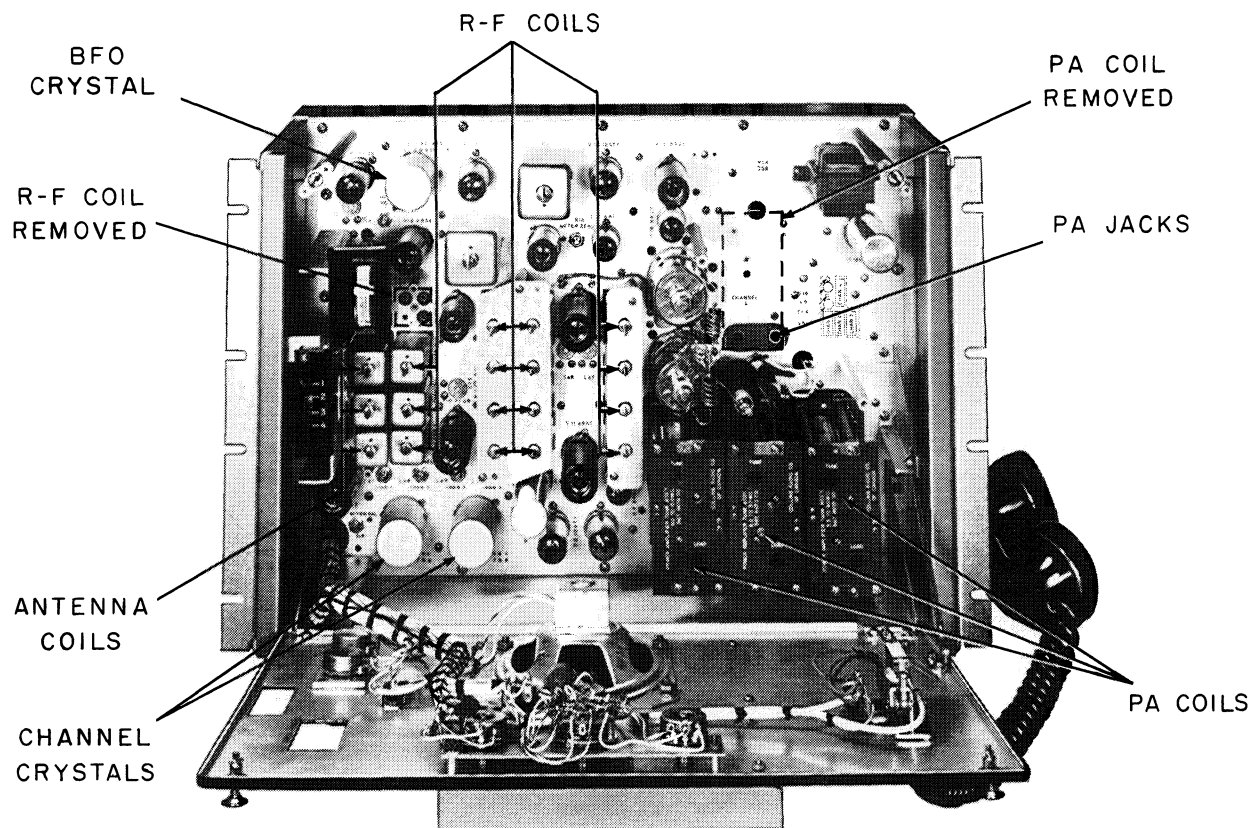

Figure 2-3. Coil Positions
b. Refer to figure 2-3. Insert the appropriate antenna, r-f, and PA coils. Check location against silk screening on chassis. Table 2-1 identifies the coils according to frequency range and Collins part numbers.